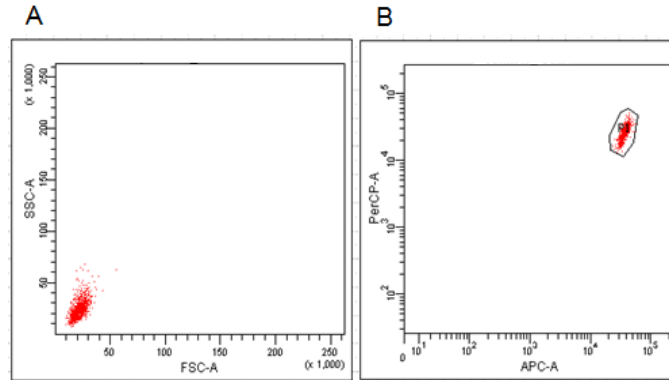

Figure 3. Dot-plot gating strategy for acquisition and analysis. FSC vs SSC (A) and PerCP vs APC (B)
1. Gate on the single population(s) on a Forward Scatter vs. Side Scatter plot in linear scale. (Figure 3)
2. Gate on the single population(s) on a PerCP/APC channel (bead auto fluorescence) in logarithmic scale (Figure 3)